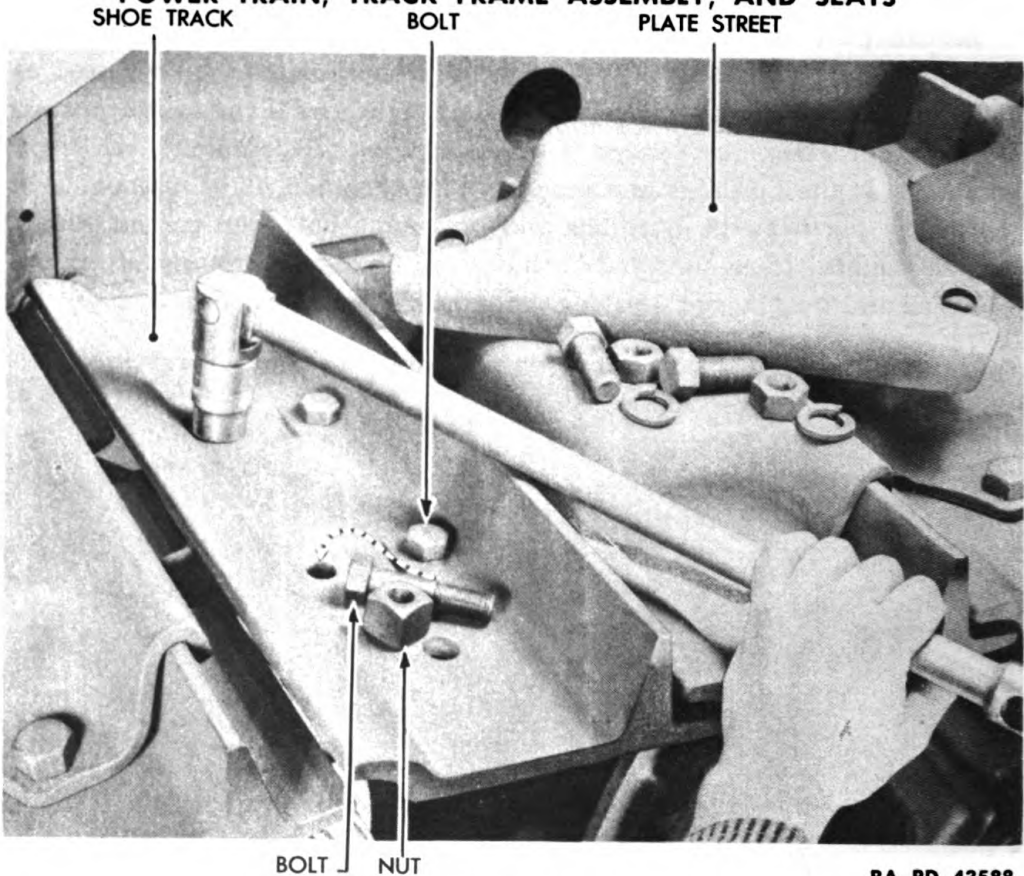

Figure 166 — Track Shoe Removal
(2) TO REPLACE TRACK SHOES (fig. 166).
(b) *Remove Track Shoe* (fig. 166).
(c) *Install New Track Shoe* (fig. 166).